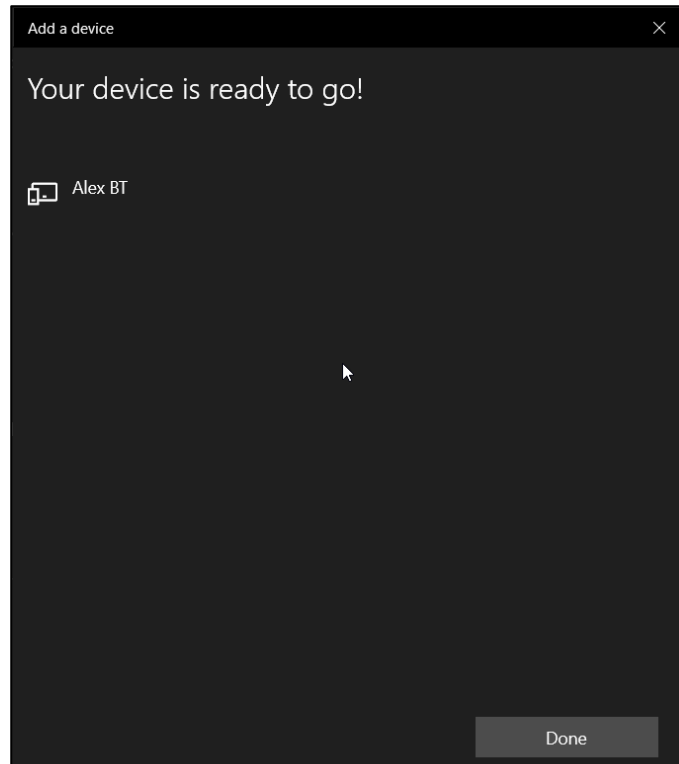

Fig. 7 Finishing adding a Bluetooth device in Windows 10.
7. Correct connection is signaled by a message from Windows 10 (Fig. 7).